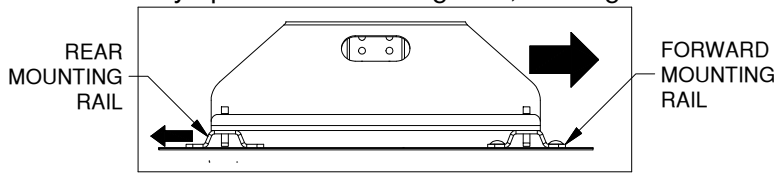

Figure C2: Side view of RV base and mounting rails.
2. **IMPORTANT:** Before drilling rear mounting holes pull the RV base towards the cab of the truck and push the rear rail towards the rear of the truck to correctly space the mounting rails, see Figure C2.